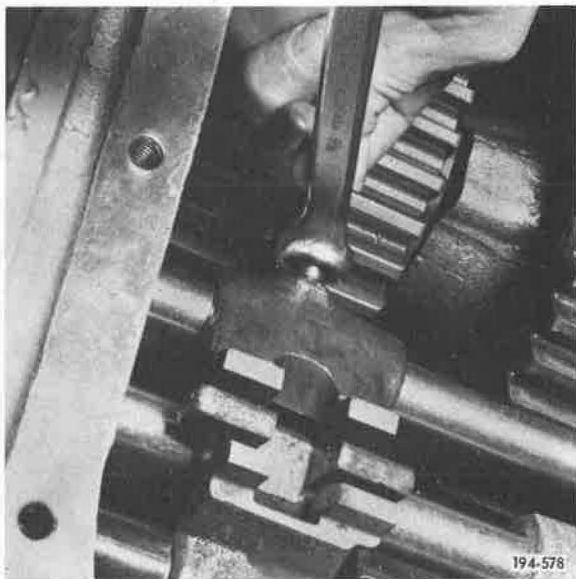

Figure 30. Removing Setscrew
29. Remove setscrew from fourth/fifth speed shift fork. See Figure 30.